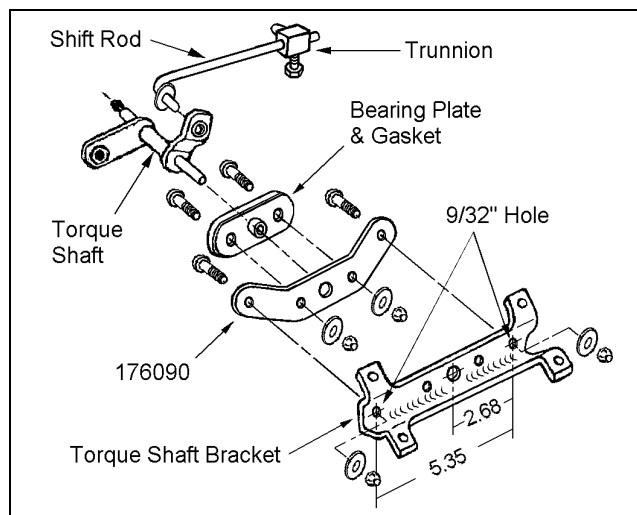

Figure 21
- 4) ☐ Attach the bearing plate (with gasket) to shift relocating bracket 176090 as shown in figure 21.
- 6) ☐ Attach the shift relocating bracket 176090 to the torque shaft bracket with the hardware from kit 860160. See figure 21.